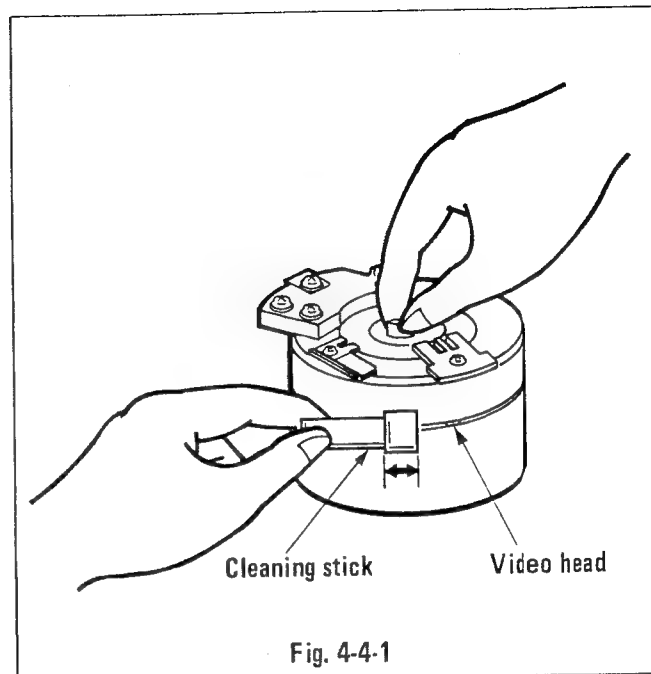

Fig. 4-4-1
1. VIDEO HEAD (See Fig. 4-4-1.)